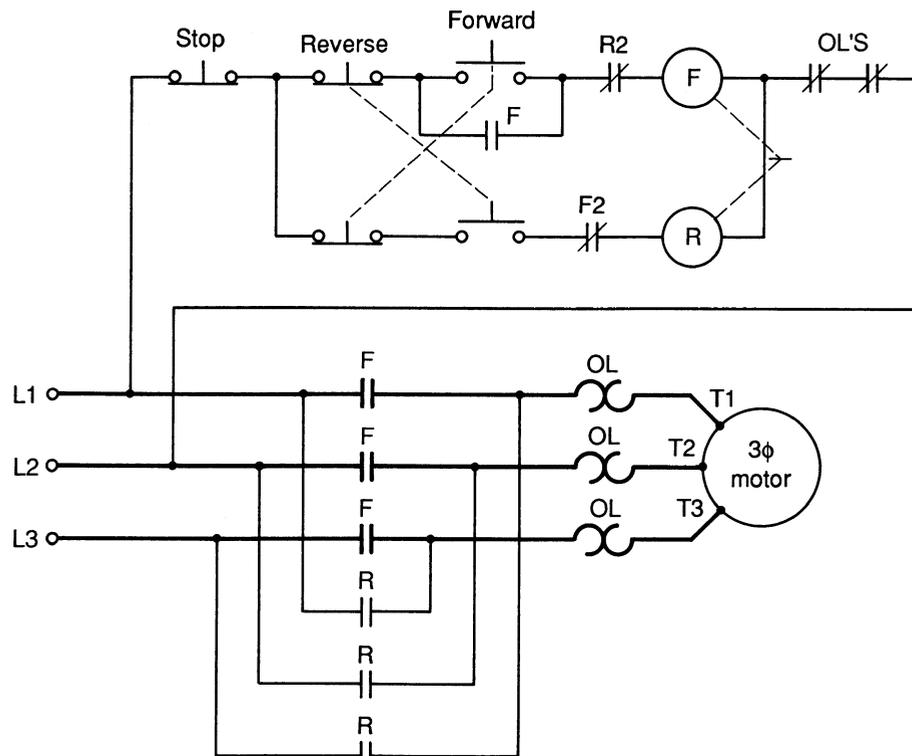

Fig. 5-16 Mechanical, push-button, and auxiliary contact interlocks.
Normally closed (NC) auxiliary contacts on the starter can be used for interlocking. This is done by a separate set of contacts on the reversing starter (Fig. 5-16). The three-phase motor shown has a forward (F) and reverse (R) coil that energize to close contacts in L₁, L₂, and L₃ to complete the power to the motor through its overload (OL) contactors, inserted inside the motor windings. The forward pushbutton is depressed. This completes the circuit to the F coil because the R normally closed contacts (R₂) are closed. Once coil F is energized, it holds the F contacts across the forward switch contacts closed, keeping coil F energized. When coil F is energized, it opened contact F₂, making it impossible for the R coil to energize. Contacts F₂ and R₂ are auxiliary contacts and are sometimes mounted on the outside of the reversing starter. In reversing the single-phase motor, keep in mind that either the run or the start winding leads are reversed, not both.